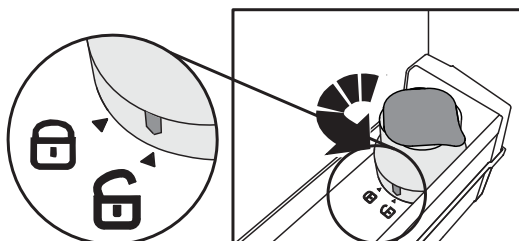

Fig 3
- Unlock the whole filter turning it anticlockwise (Fig 3)
(You can follow the procedure described in Carbon filter activation and Filter installation - Fig. 3,4,5,6,7,8).